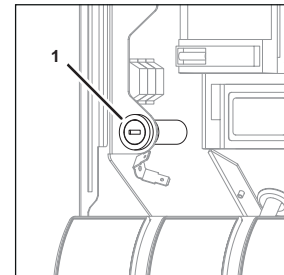

Fig. 40
1. Turn and remove the fuse holder (Fig. 40/1).
4. Attach the fuse holder (Fig. 40/1) within the unit.